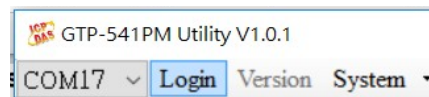
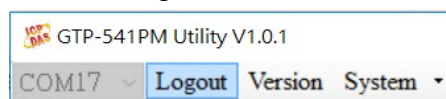

Figure 6.10.18
Figure 6.10.19
- B. Click “Login” on the Utility screen. As shown in Figure 6.10.18, if the connection is successful, the “Login” button will change to “Logout”, as shown in Figure 6.10.19